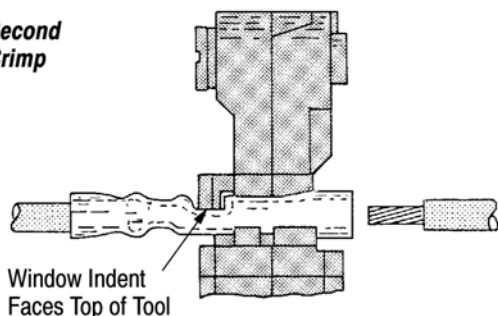

Figure 4
4. Raise locator and place splice under locator as shown in Figure 4. Splice window indent faces top of tool.
To properly position pre-insulated sealed splice, apply and maintain pressure against end of splice until Step 5 is completed. See Figure 4.
6. Insert stripped wire into terminal until conductor butts against locator. See Figure 3. Insert stripped wire into splice until conductor butts against splice wire stop. See Figure 4.
3. Insert UNSTRIPPED wire into ONLY the insulation barrel (see Figure 3 or Figure 4) of terminal or splice.